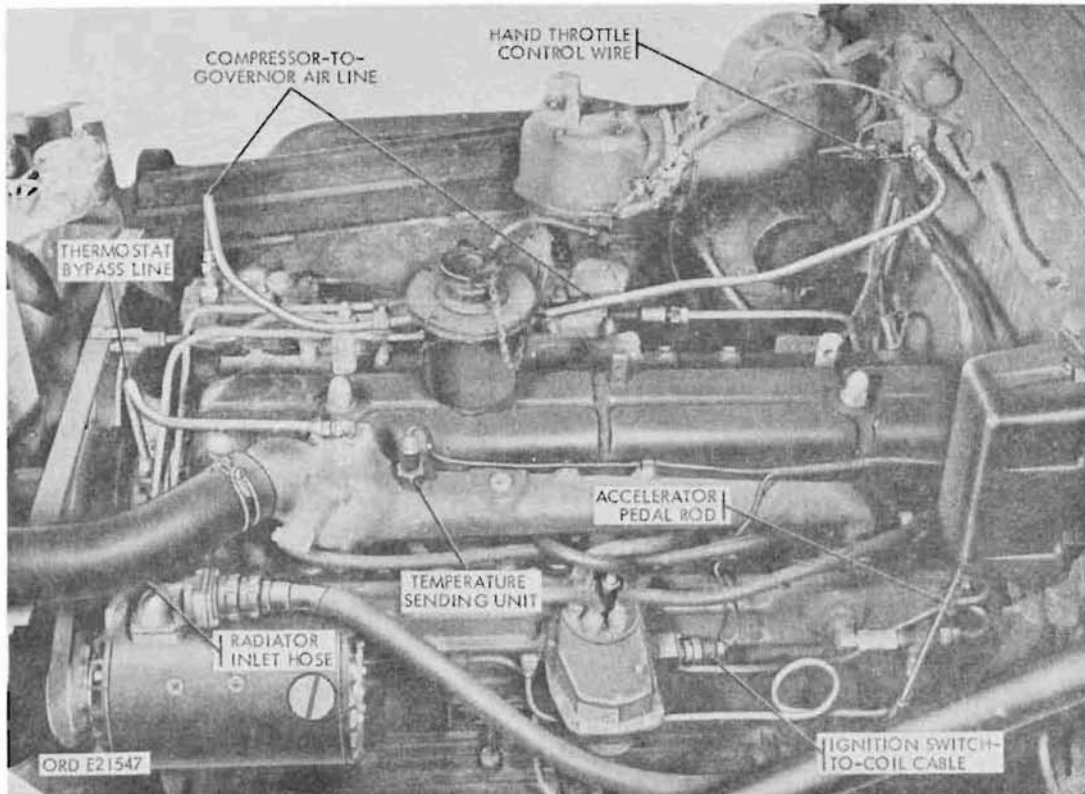

Figure 79. Left side of installed engine - gasoline
a. Description. The engine (figs. 79 and 80) is a gasoline, 6-cylinder, in-line, 4-stroke cycle, valve-in-head, wet-sleeve type. The cylinders have replaceable cylinder sleeves with pistons mounted in the cylinder block.
- (1) Drain the cooling system (TM 9-2320-209-10). Loosen both clamps on the radiator inlet hose (fig. 79) and remove the hose.
- (2) Disconnect the thermostat bypass line (fig. 79) at the water manifold and pull it clear.
- (3) Disconnect the temperature gage cable (fig. 79) from the temperature sending unit on the water manifold.
- (4) Disconnect the ignition-switch-to-ignition-coil cable (fig. 79) at the distributor. Remove the harness clip from the water manifold and place the harness over the top of the generator regulator.
- (5) Disconnect the spark plug cables (par. 99) at the spark plugs, and remove the spark plugs (par. 98).
- (6) Disconnect the compressor-to-governor airline (fig. 79) at the air governor.
- (7) Remove the valve rocker arm cover (par. 39).
- (8) Remove two hex-head screws securing the stay rod bracket (fig. 79) and the pump-to-carburetor line to the cylinder head. Remove two safety nuts securing the valve-to-carburetor line, compressor-to-governor airline, and radiator stay rod to the bracket, and remove the lines and stay rod from the bracket. Remove the bracket from the cylinder head, and move the stay rod aside to clear the cylinder head.
- (9) Disconnect the compressor-to-governor airline (fig. 79) at the air compressor and remove the tube.